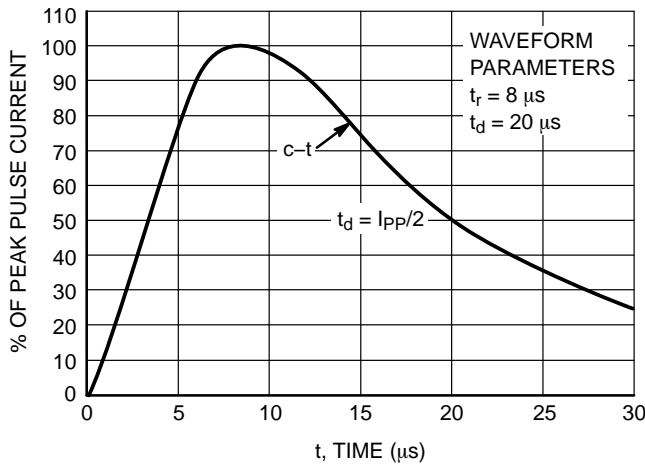

Figure 1. Pulse Waveform, IEC 61000-4-5 8/20 μs
1. Non-repetitive current pulse per Figure 1.
4. Pulse waveform per Figure 1.